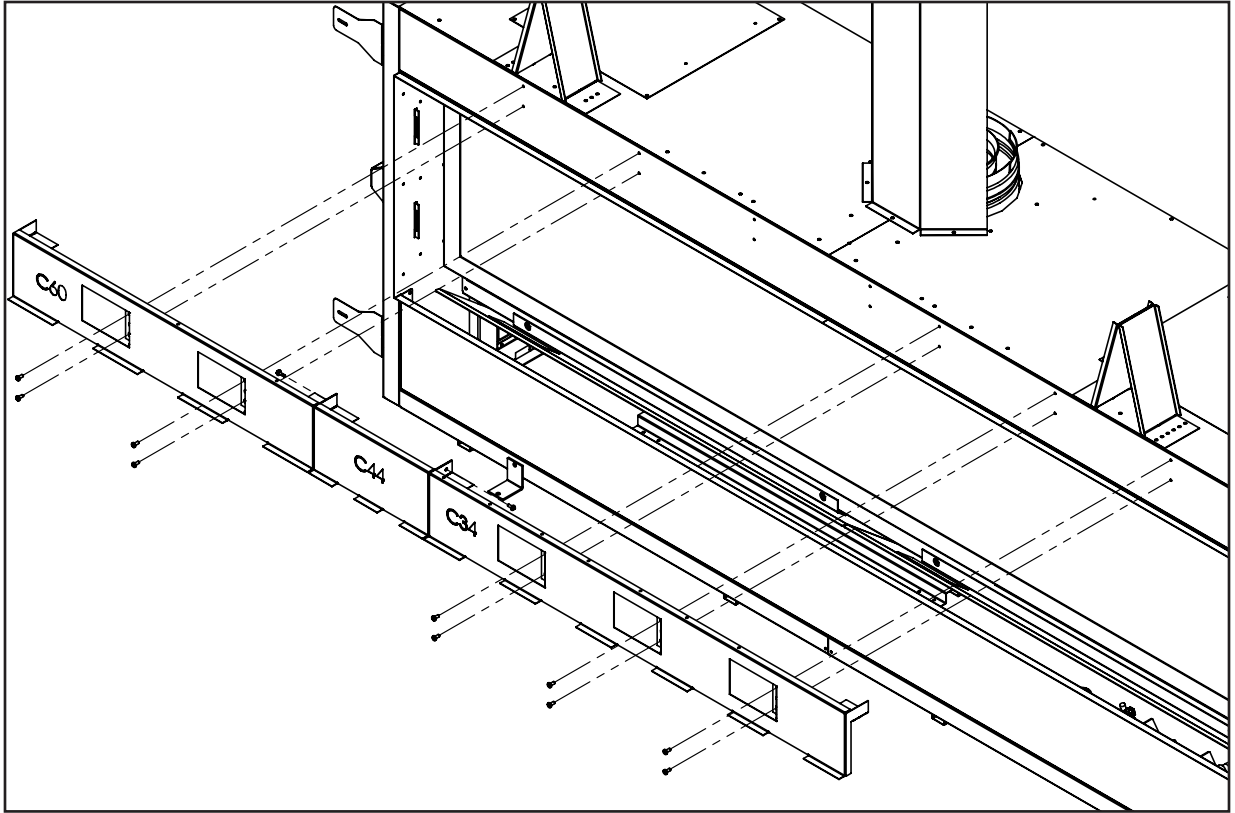

Figure 19. Combustible Facing Kit C72
Step 6: If installing a C44 or C60, attach your extension piece to the C34 main panel. If installing a C72, attach all the extension pieces together in the order shown in Figure 19. Note, the c72 parts will not line up to the edge of the tiling flange.